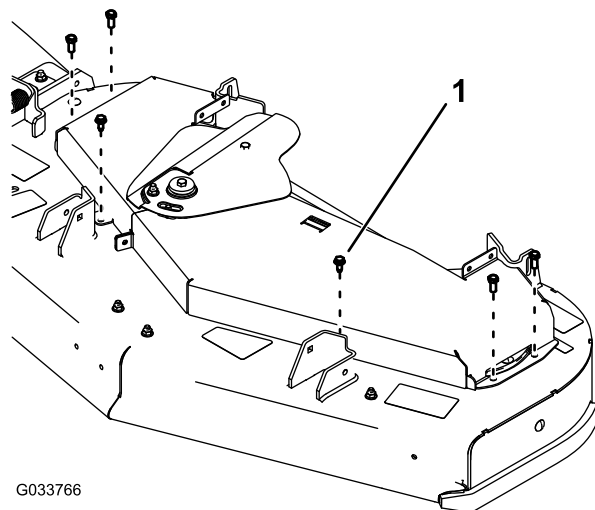

Figure 71
7. Remove the 6 bolts connecting the belt covers to the mower deck and slide the belt covers out from under the idler cover (Figure 71).
10. Install the belt covers using 6 bolts (Figure 71).